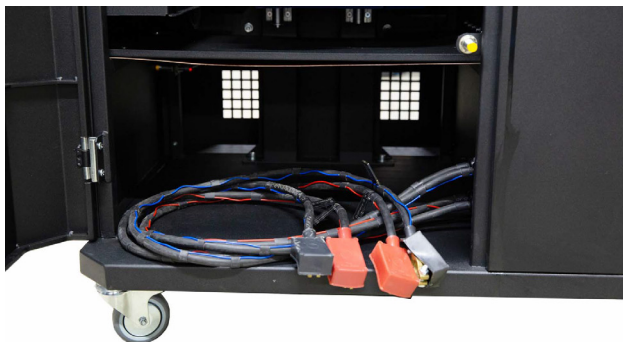

Figure 9. Location of the storage batteries in the bench.
1) Storage batteries 12V that have to be located in the storage battery section of the bench (fig.9). The left door is opened with the keys (included to the supply slip). While connecting the storage batteries refer to the power cable markings. If only one storage battery is connected just 12V diagnostic mode will be available, 24V diagnostic mode will be unavailable.